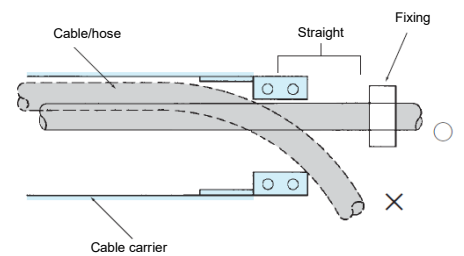

Fig. 12 Cable/hose installation status at both cable carrier ends
- Make sure the cables/hoses are straight when inserted into the cable carrier (Fig. 12).